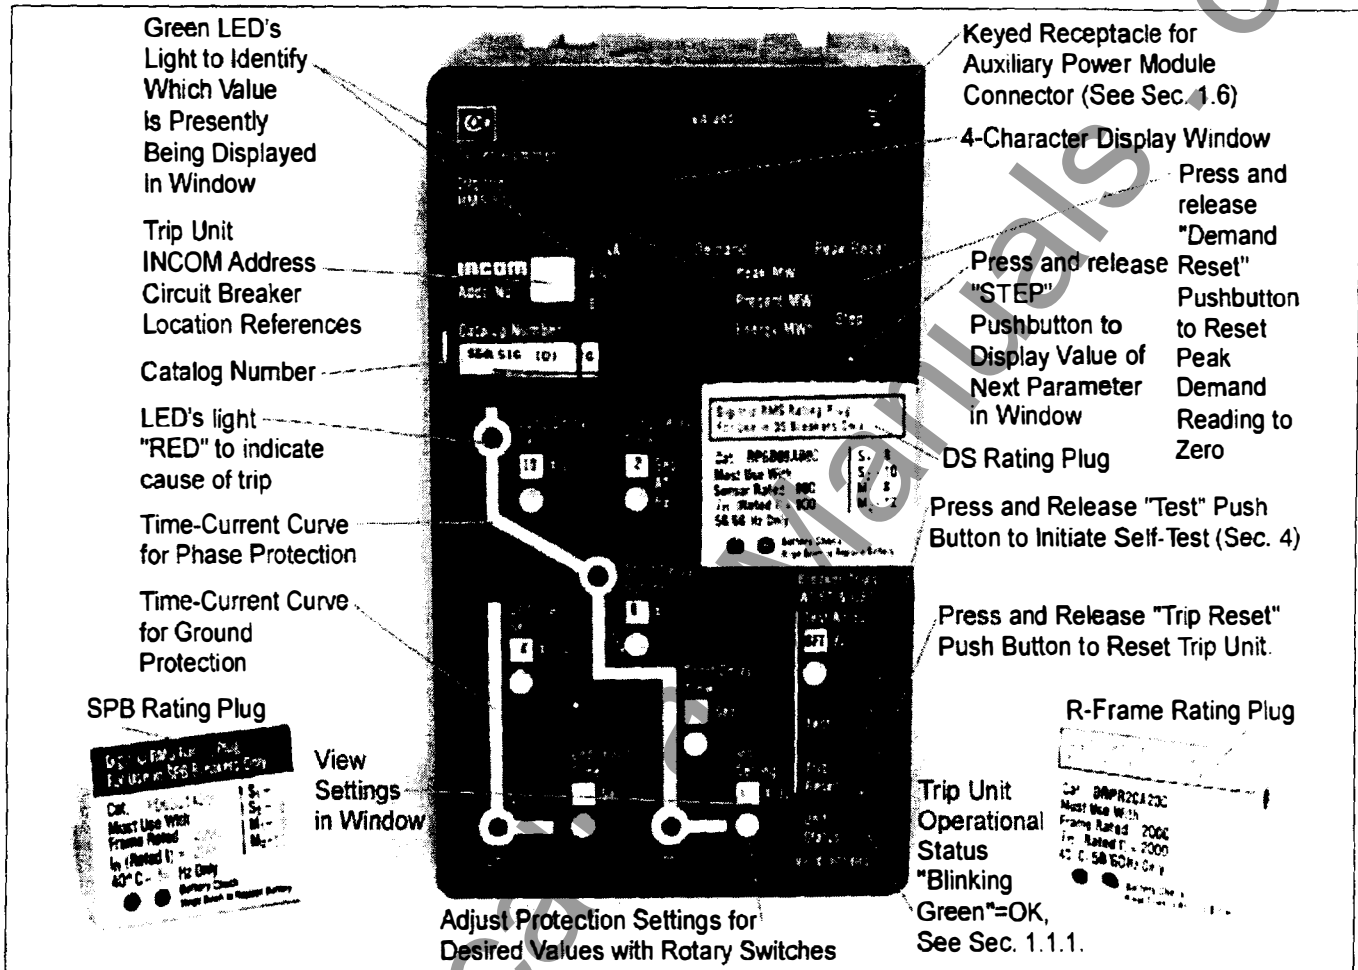
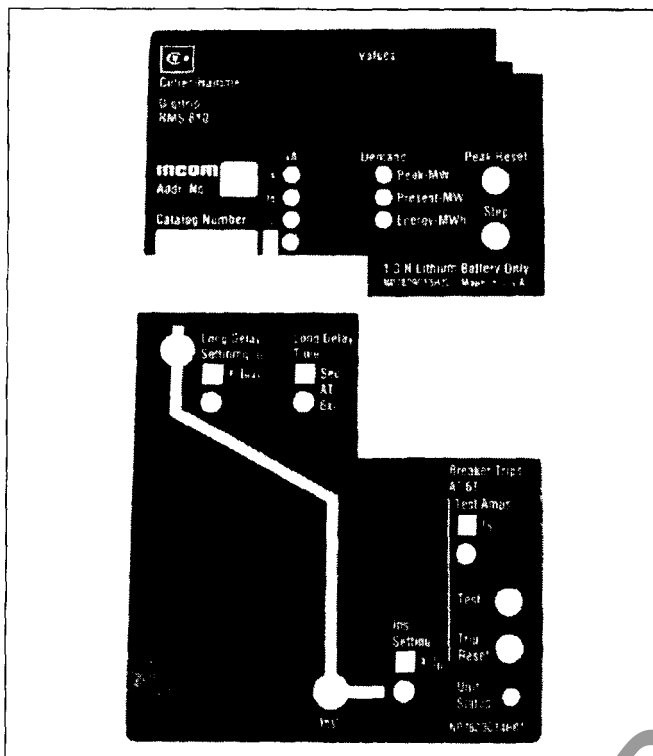

Fig. 1 Digitrip RMS 810 Trip Unit Type L SIG with Rating Plug
Fig. 3.1 Digitrip RMS 810 Type LI
The Digitrip RMS 810, illustrated in Fig. 1, is a Trip Unit, suitable for use in types DS and DSL Low-Voltage AC power circuit breakers and type SPB Systems Pow-R circuit breakers and Series C R-Frame molded case circuit breakers. The Digitrip RMS 810 Trip Unit provides five basic functions:
The "Green" Light Emitting Diode (LED) in the lower right corner of the Trip Unit (Fig. 1) "blinks" once each second to indicate the Trip Unit is operating normally.
The LEDs, shown in Figs. 1 and 3.1 thru 3.6 on the face of the Trip Unit, light "RED" to indicate the reason for any automatic trip operation. As indicated in Figs. 3.1 - 3.6, each LED is strategically located in the related segment of the time-current curve depicted on the face of the Trip Unit. The reason for trip is identified by the segment of the time-current curve where the LED is lighted "RED", and shown by the "code" in the Display. Following an automatic protection trip operation, the external control power to the Power/Relay Module (see Section 1.4) will maintain the LED "RED" and will **continue** to send a **TRIP** signal to **LOCKOUT** the circuit breaker until the Trip Unit is **RESET**. The Digitrip RMS 810 Trip Unit can be **RESET** in two ways:
- either press and release the "**TRIP RESET**" button (See Fig. 1 lower right corner just above the "UNIT STATUS" LED.),
In the event that control power is lost, the back-up battery in the Rating Plug (see Section 1.3 and Figs. 1 and 4) continues to supply power to the LEDs. To check the status of the battery, see Section 4.5.
Press and release the "TRIP RESET" push-button shown in Fig. 1, to turn "Off" the LEDs following a trip operation.
The Digitrip RMS 810 Trip Unit is available in six different types. Each Trip Unit may be equipped with a maximum of five phase and two ground (time-current) settings (see Section 3) to meet specific application requirements. The protection available for each type is summarized in Table 1, and illustrated in Figures 3.1 through 3.6:
**AFTER EACH TRIP OPERATION (WHETHER DUE TO OVER-CURRENT PROTECTION OR REMOTE CONTROL) THE AUTOMATIC LOCKOUT-AFTER-TRIP FEATURE OF THE DIGITRIP RMS 810 TRIP UNIT MAINTAINS THE CIRCUIT BREAKER IN A "TRIP-FREE" CONDITION, PROVIDED 120 VAC CONTROL POWER REMAINS AVAILABLE TO THE POWER / RELAY MODULE. THE TRIP UNIT MUST BE RESET BEFORE THE CIRCUIT BREAKER CAN BE CLOSED AGAIN. THE RESET CAN BE ACCOMPLISHED EITHER LOCALLY BY PRESSING AND RELEASING THE "TRIP RESET" PUSH BUTTON (SEE FIG. 1), OR REMOTELY BY THE IMPACC SYSTEM. (SEE SECTION 5.9.)**